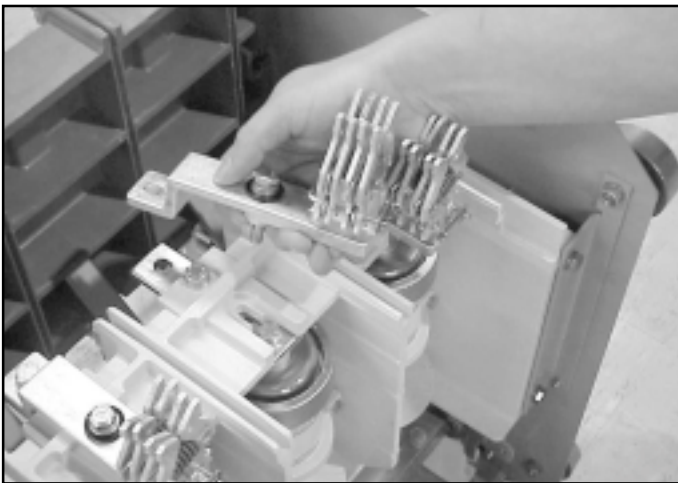

Fig. 19
1. Remove the two bolts securing the load finger casting to the contactor (Figure 19).